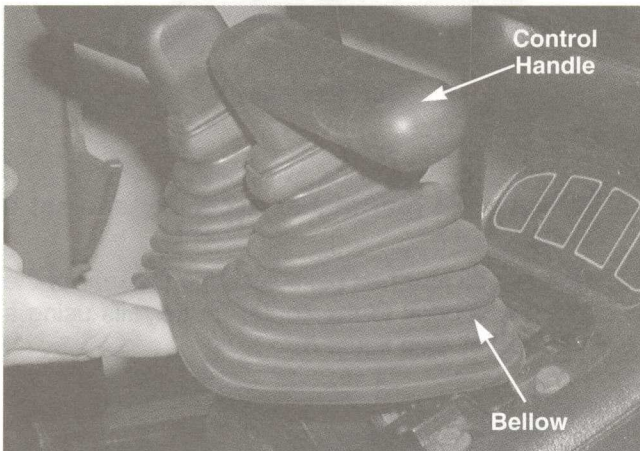

FIGURE 1.
4. Slide the control bellow upward (towards the drive control handles). See figure 1.